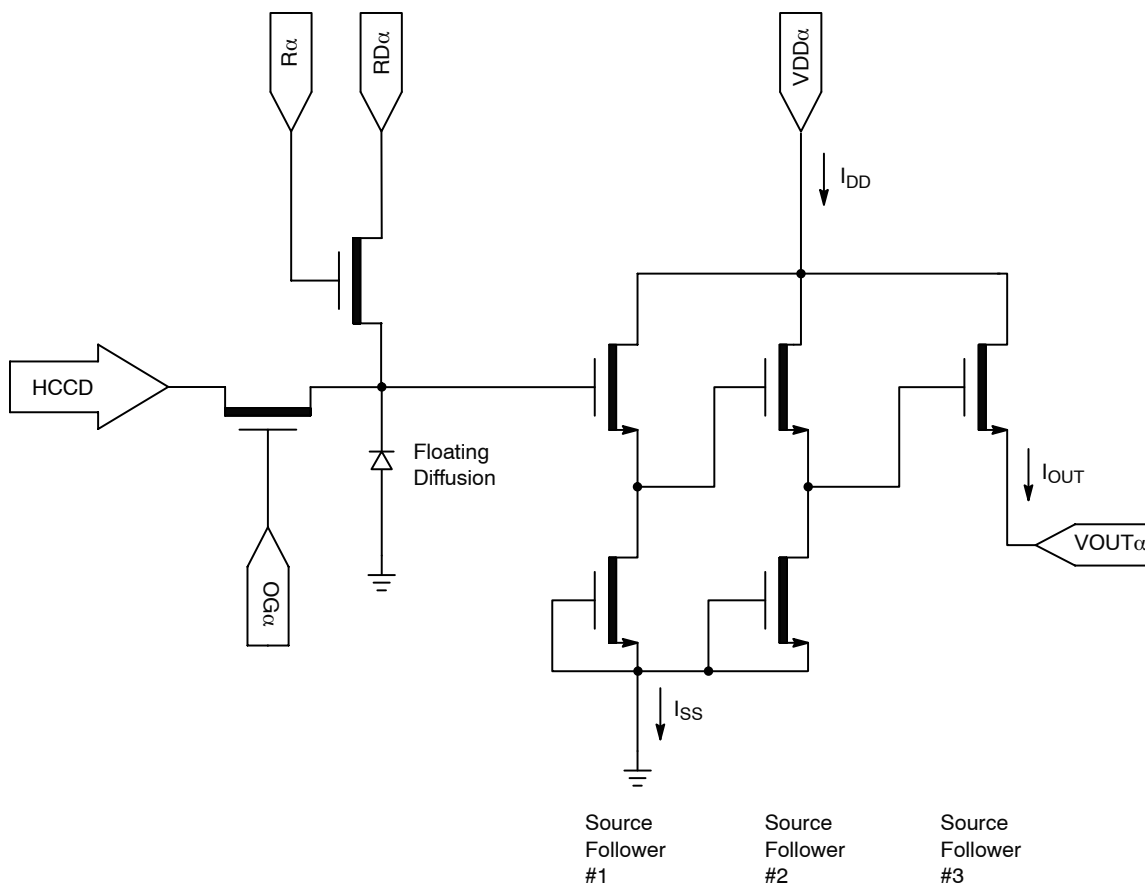

Figure 19. Output Amplifier
2. The maximum DC current is for one output. I_{DD} = I_{OUT} + I_{SS}. See Figure 19.